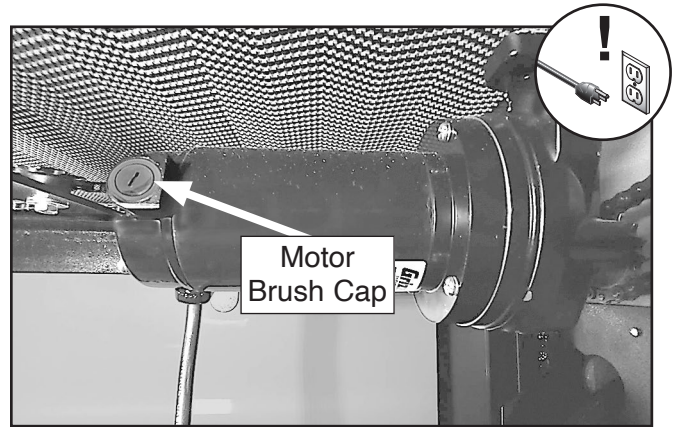

Figure 55. Location of motor brush cap.
3. Remove motor brush cap (see **Figure 55**) and motor brush from conveyor motor.